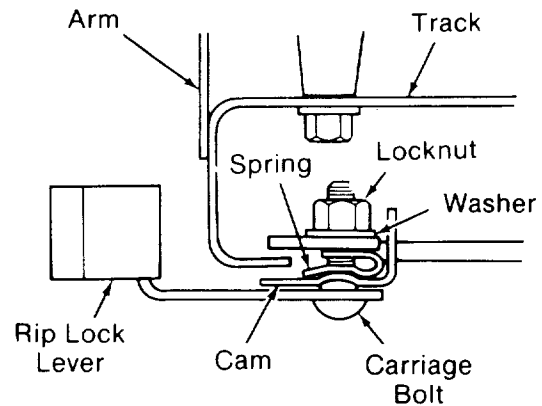

Fig. 139 - Location of Hex Lock Nut
1. Hold the *rip lock* in the unlocked position and with a 7/16 inch wrench tighten the 1/4-20 hex lock nut 1/4 turn. (Figure 139)